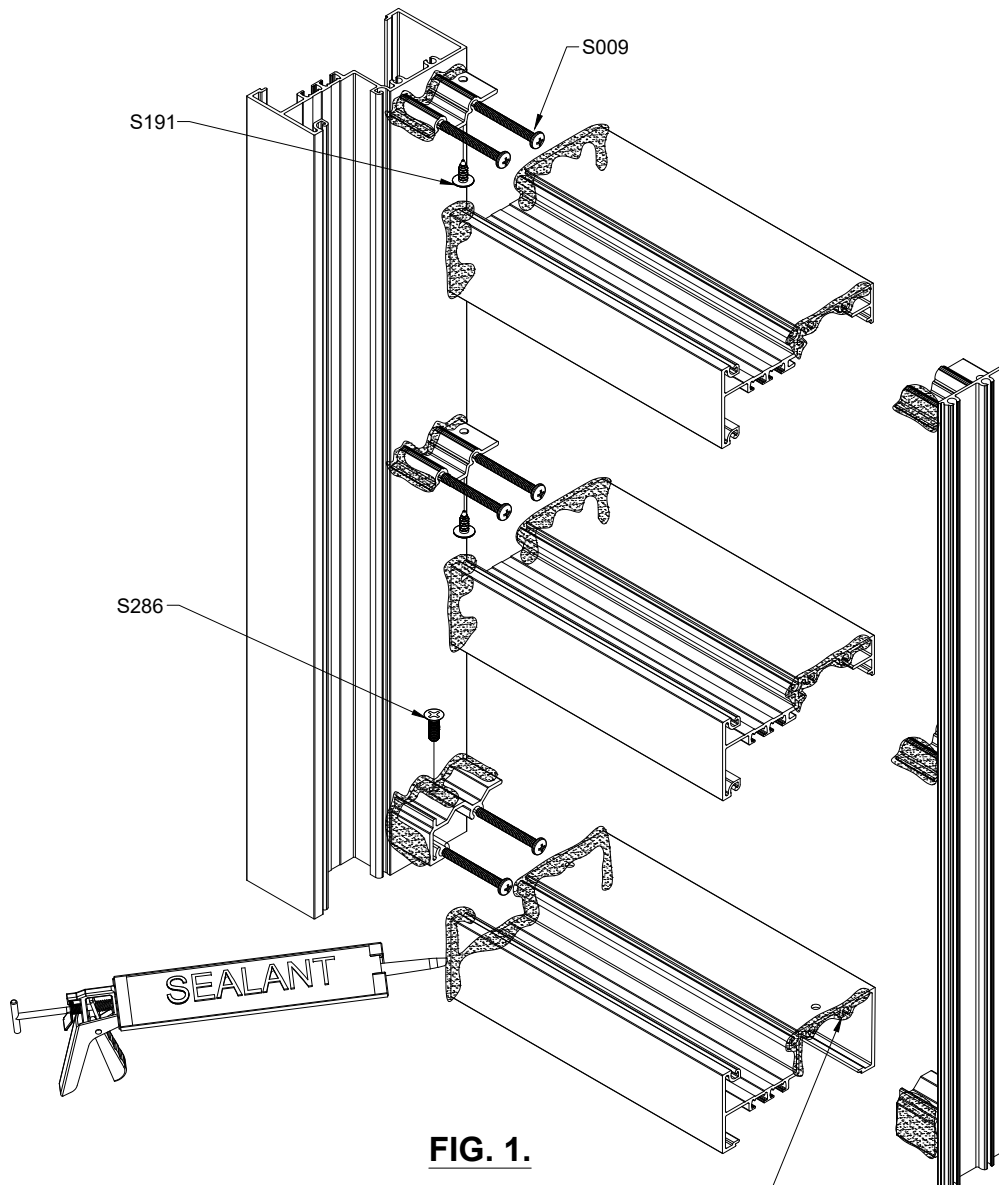

FIG. 1.
- Apply sealant to ends of the horizontals and on mating surfaces of the shear clip. **SEE FIG. 1.**